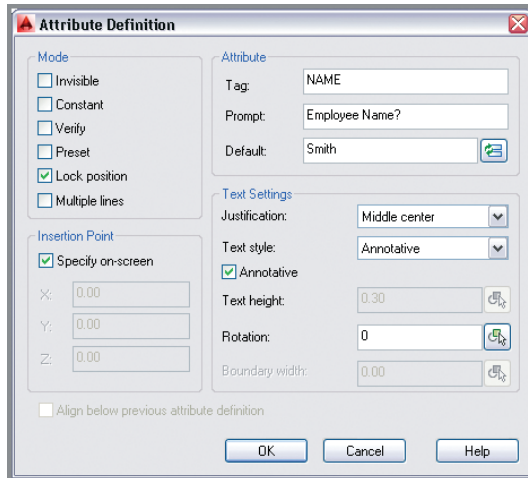

FIGURE 15.8 Specifying the properties of an attribute definition
- Expand the Block panel, and click the Define Attributes tool to open the Attribute Definition dialog box. Type **NAME** as the tag, **Employee Name?** as the prompt, and **Smith** as the default. Set Justification to Middle Center and Text Style to Annotative (see Figure 15.8).